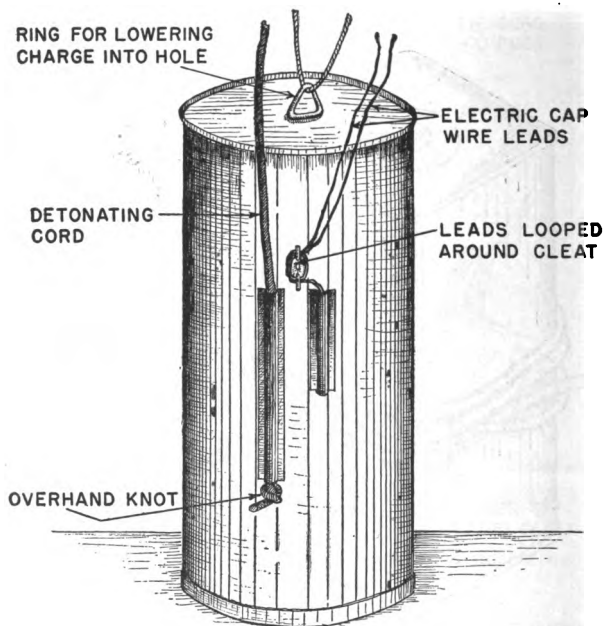

FIGURE 94.—Ammonium nitrate cratering charge with electric-cap and detonating-cord primers.
d. Ammonium nitrate cratering explosive (fig. 94).—Ammonium nitrate cratering explosive is issued in 40-pound charges, each packed in a cylindrical container of tin or other moistureproof material of equal strength. The metal container is about $8\frac{1}{4}$ inches in diameter and 17 inches in height; another type of container, made of waterproofed cardboard, is 7 inches in diameter and about 21 inches high. Two tubes are secured to the outside wall of each container
cap (fig. 94). To make a primer using detonating cord, pass the detonating cord all the way through the tunnel (from top to bottom) on the side of the container and tie an over-hand knot in the lower end to prevent the cord from pulling out of the tunnel. Both means of detonating should be used simultaneously. Do not use detonating cord or electric-cap leads to lower the ammonium nitrate cratering charges into holes; use a cord attached to the ring in the top of the charge.